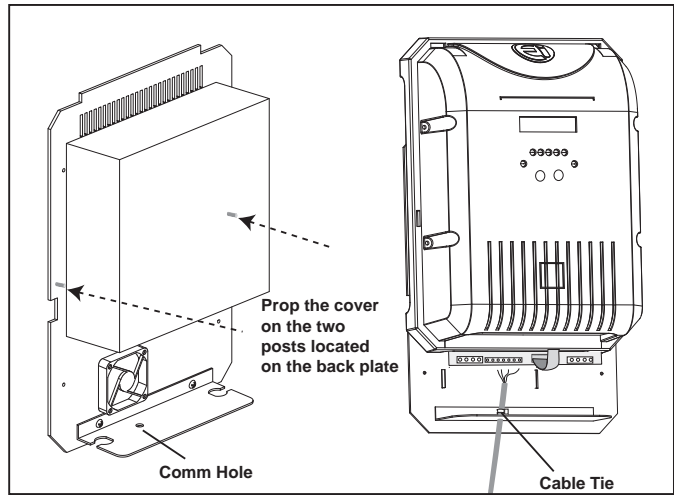

Figure 18. Accessing and Wiring to the Power PCB
2. Remove the screws attaching the cover to the back plate and prop the cover up to expose the terminals (see Figure 18).
3. Remove the white cap covering the comm hole (see Figure 18).
5. Attach a cable tie to the controller cable as shown (see Figure 18).